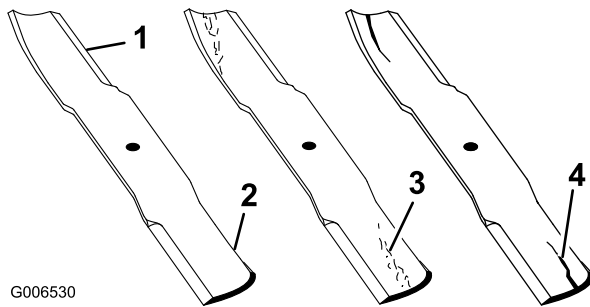

Figure 39
1. Inspect the cutting edges (Figure 39). If the edges are not sharp or have nicks, remove and sharpen the blades; refer to **Sharpening the Blades**.
2. Inspect the blades, especially the curved area. If you notice any damage, wear, or a slot forming in this area (item 3 in Figure 39), immediately install a new blade.